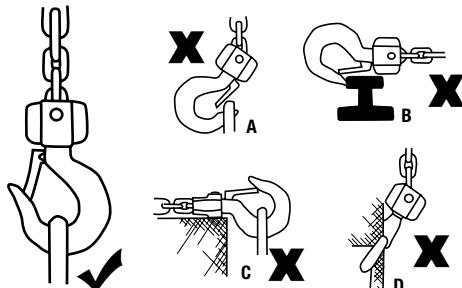

Figure 1
- Attach load to Load Hook (4), using slings, chains or other lifting devices, suitable for the type, shape and weight of the load (see Fig.1)
- Centre the load on the Load Hook correctly (see Fig.1)